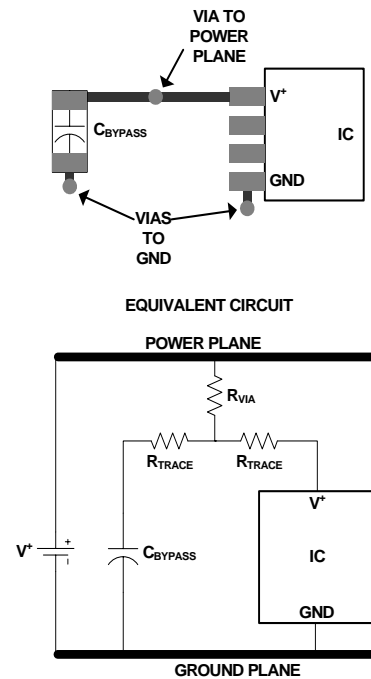
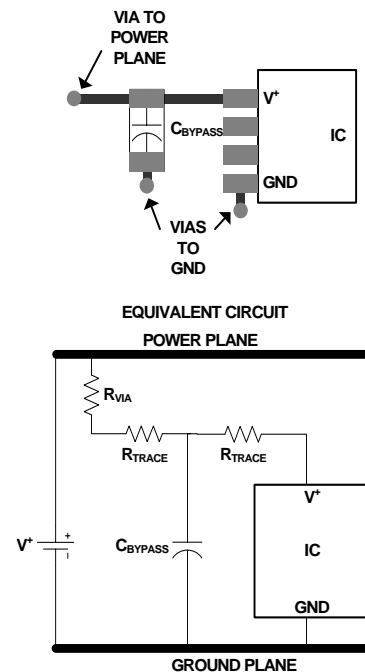

FIGURE 12. SUB-OPTIMAL BYPASS CAPACITOR LAYOUT
FIGURE 13. OPTIMAL ("T") BYPASS CAPACITOR LAYOUT
- Ideally each supply should be bypassed to ground with a $0.1\mu\text{F}$ capacitor. Minimize trace length and vias to minimize inductance and maximize noise rejection. Figure 12 demonstrates a common but non-ideal PCB layout and its equivalent circuit. The additional trace resistance between the bypass capacitor and the power supply/IC reduces its effectiveness. Figure 13 demonstrates a better layout. In this case there is still series trace resistance (it is impossible to completely eliminate it), but now it is being put to good use, as part of a "T" filter, attenuating supply noise before it gets to the IC, and reducing the amount of IC-generated noise that gets
injected into the supply. Follow the good supply bypassing rules shown in Figure 13 to the extent possible.